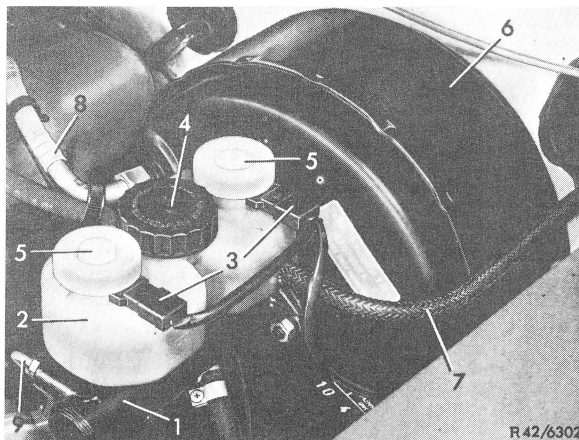

Fig. 1
- 1 On vehicles with manual transmission, remove connecting hose (7) to master cylinder.
- 3 Loosen vacuum line (8) on brake unit (6) (Fig. 1).